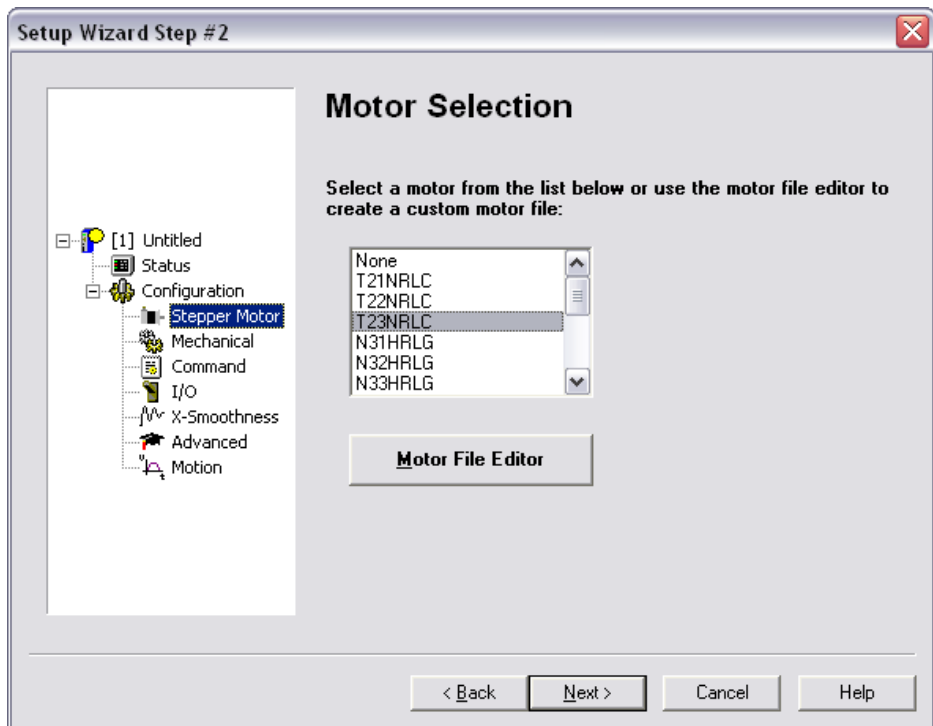

Figure 12. Motor Selection
5. In the motor selection dialog, shown in Figure 12, select the NI stepper motor you have connected to the drive. If you are using a third-party motor, select **None** from the list, click the **Motor File Editor** button, and enter the motor information. The T23NRLC motor is selected in this example.